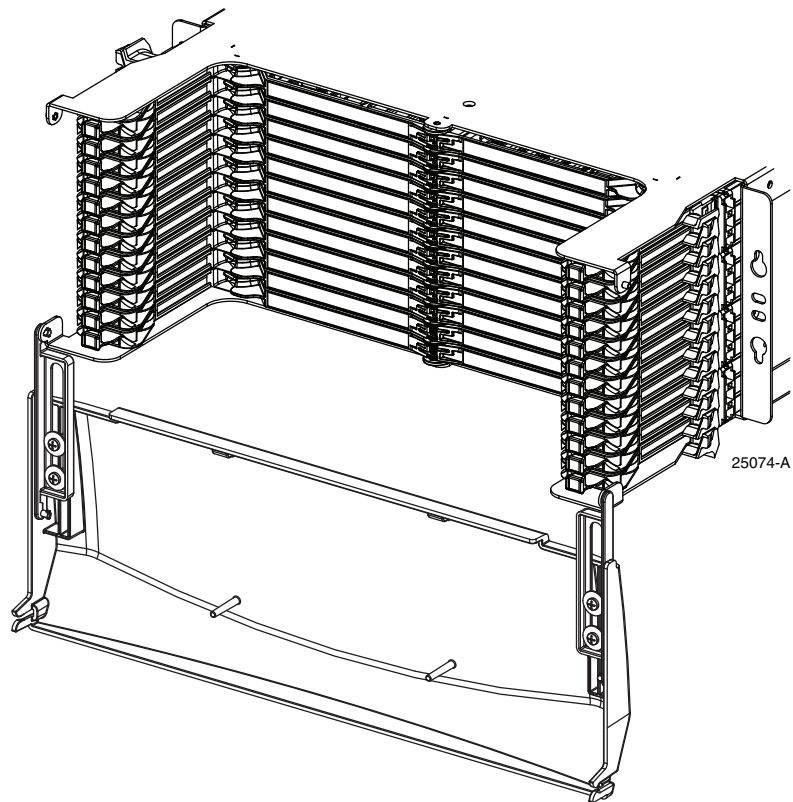

Figure 6. Door in Full Open Position
2. Allow the door to hang down in the full open position shown in Figure 6.